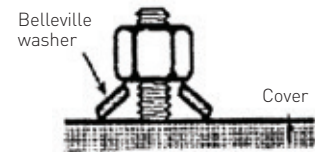

FIGURE 2
Model RM & RMR gages require 4 washers per nut; model TM, TMR gages require 2 washers per nut (4 per bolt). Washers should be assembled with cupped side facing the gage cover. Refer to Figure 2 for proper washer assembly.
4. For transparent belleville style gages, thread nuts on stud, place two belleville washers under nut with pointed end toward the nut (see Figure 2), insert stud through each cover and lay out covers along bench, side by side, with liquid chamber. Use chamber to space covers and line them up with vision slots.
- A. For transparent belleville style gages: install nameplate and two belleville washers under each nut with pointed end toward the nut (see Figure 2). Finger tighten nuts.
- B. For reflex belleville style gages: install nameplate and four belleville washers under each nut with pointed end toward the nut (see Figure 2). Finger tighten nuts.